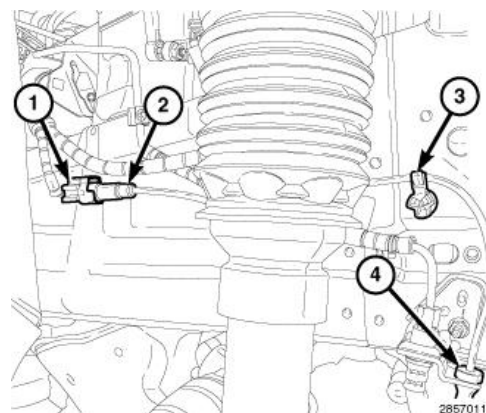

Figure 10 – Wheel Speed Sensor Connections
18. Disconnect the wheel speed sensor electrical connector (1), the wheel speed sensor wiring routing clips (2, 3), and remove the wheel speed sensor wiring (4) from the brake flex hose bracket (Figure 10).